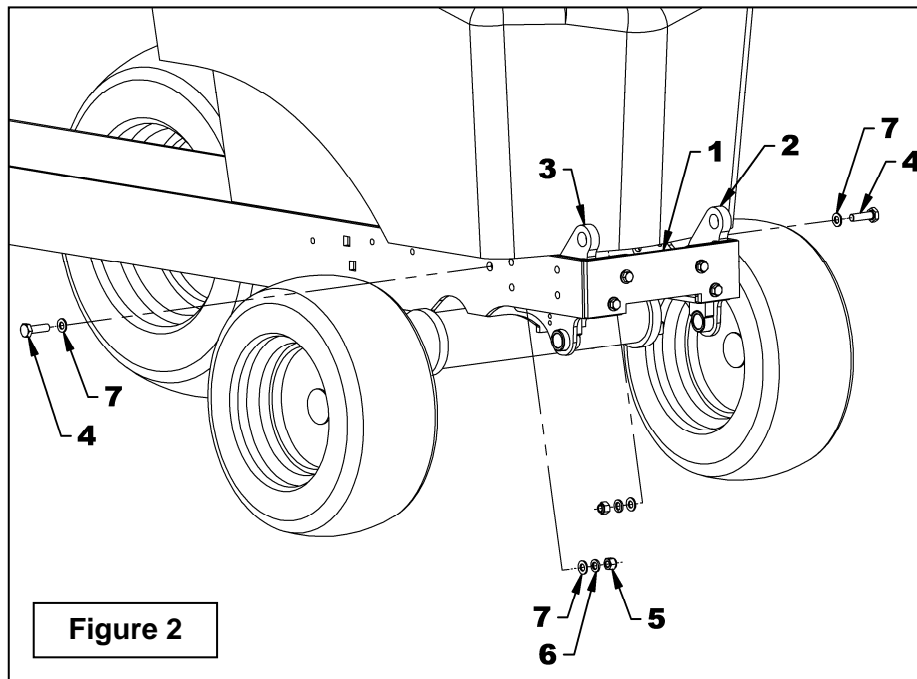

Figure 2
4. Gather items 4 to 7 listed in the table of figure 2.
5. **Figure 2:** Attach without tightening the supports (items 2-3) with two 1/2"NC x 1 3/4" lg. hex. bolts (item 4), four 12mm (Ø13mm int.) flat washers, two 1/2" lockwashers and two 1/2"NC nylon insert nuts (items 4-7-6-5).